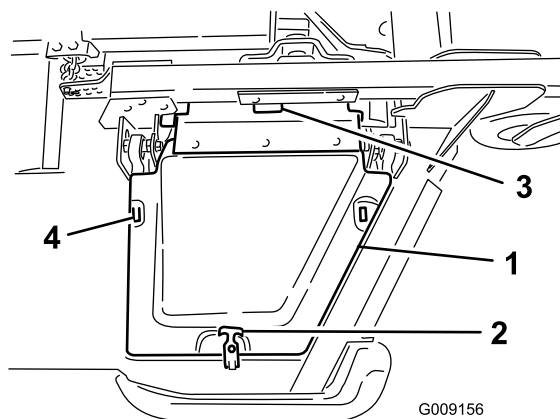

Figure 6
8. Install the winglet deck cover and secure with rubber latch (Figure 6).